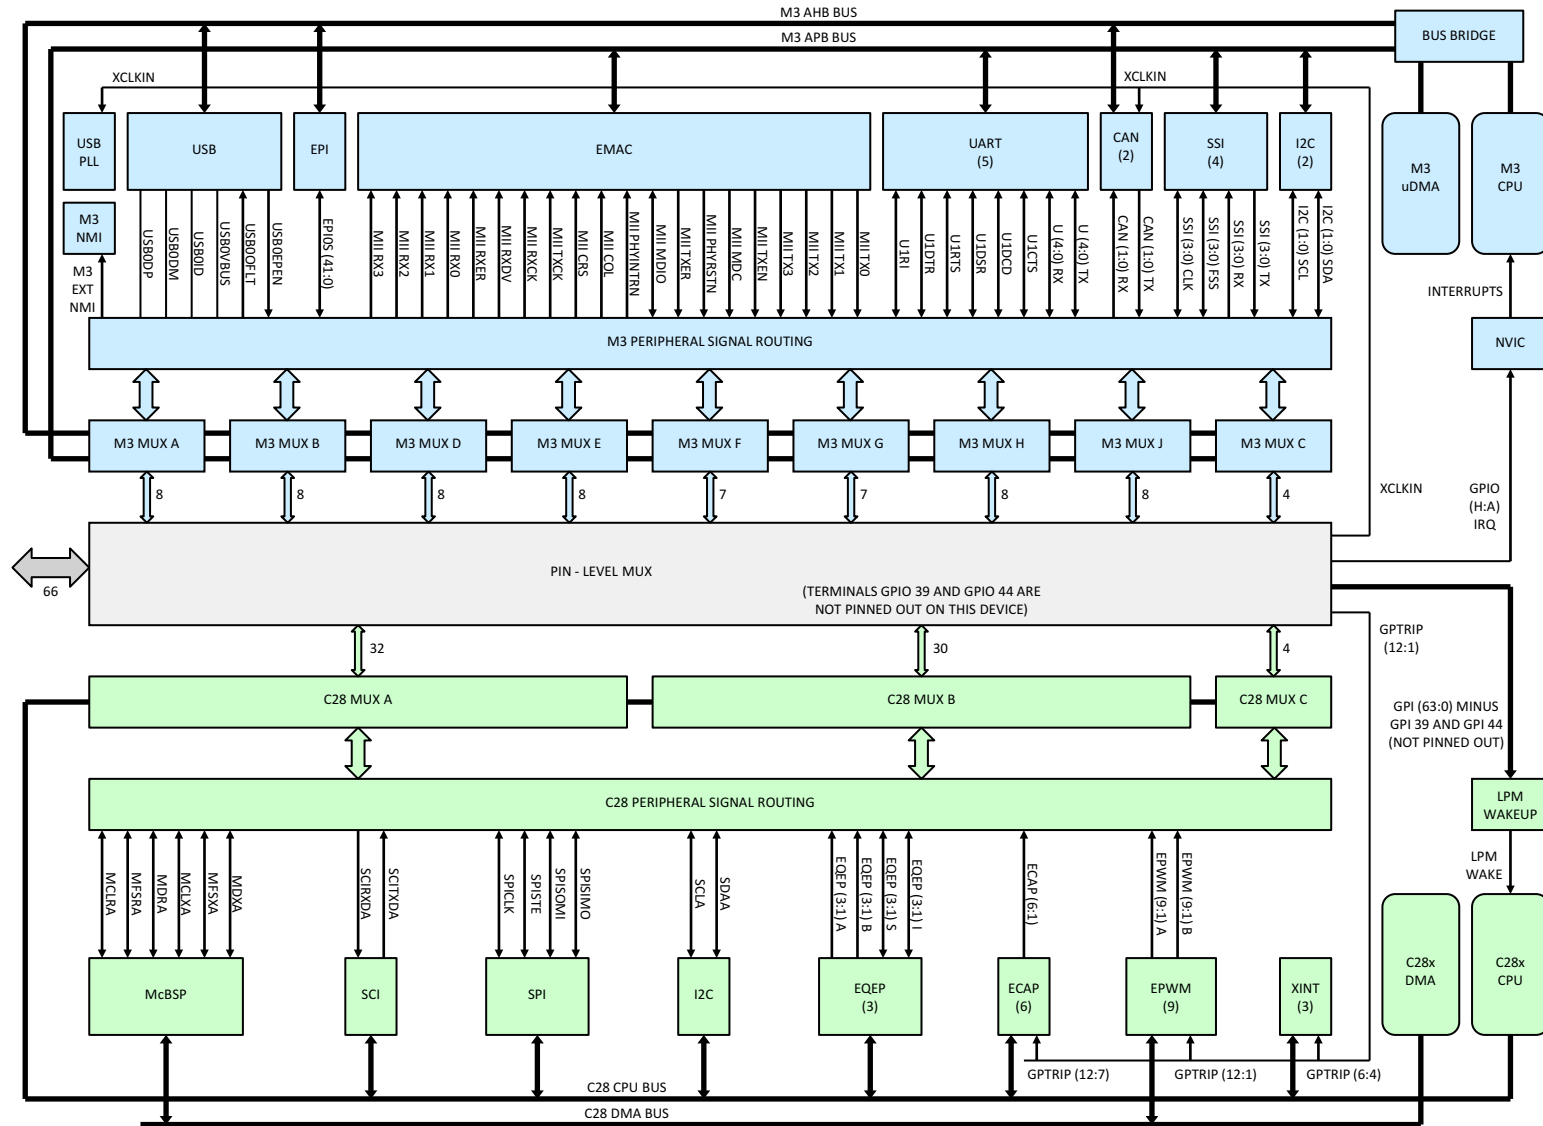
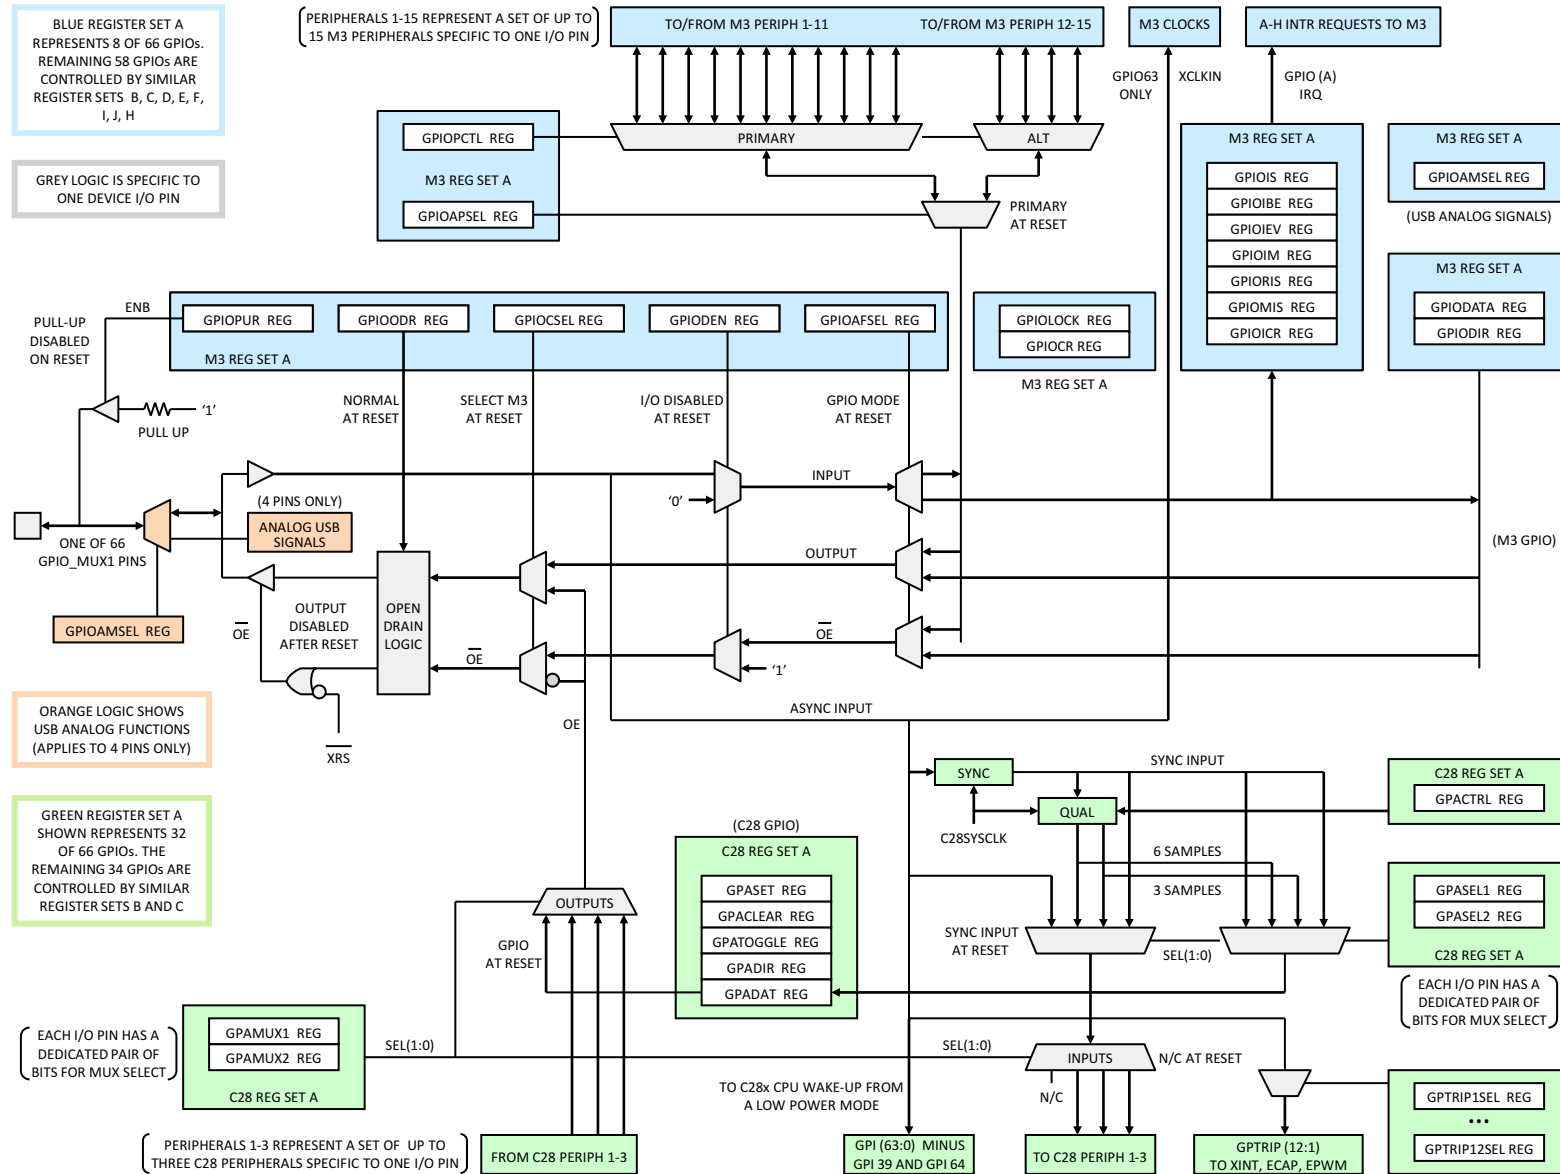

Figure 2-14. GPIO\_MUX1 Block
Figure 2-15. GPIO\_MUX1 Pin Mapping Through Register Set A
Figure 2-14 shows the internal structure of GPIO\_MUX1. The blue blocks represent the Master Subsystem side of GPIO\_MUX1, and the green blocks are the Control Subsystem side. The grey block in the center, Pin-Level Mux, is where the GPIO\_MUX1 pins are individually assigned between the two subsystems, based on how the configuration registers are programmed in the blue and green blocks (see Figure 2-15 for the configuration registers).
Pin-Level Mux assigns Master Subsystem peripheral signals, Control Subsystem peripheral signals, or GPIOs to the 66 GPIO\_MUX1 pins. In addition to connecting peripheral I/Os of the two subsystems to pins, the Pin-Level Mux also provides other signals to the subsystems: XCLKIN and GPIO[A:J] IRQ signals to the Master Subsystem, plus GPTRIP[12:1] and GPI[63:0] signals to the Control Subsystem. XCLKIN carries a clock from an external pin to USB PLL and CAN modules. The nine GPIO[A:J] IRQ signals are interrupt requests from selected external pins to the NVIC interrupt controller. The 12 GPTRIP[12:1] signals carry trip events from selected external pins to C28x control peripherals—ePWM, eCAP, and eQEP. Sixty-four GPI signals go to the C28x LPM GPIO Select block where one of them can be selected to wake up the C28x CPU from Low-Power Mode. Sixty-six (66) GPI signals go to the C28x QUAL block where they can be configured with a qualification sampling period (see Figure 2-15).
The configuration registers for the muxing of Master Subsystem peripherals are organized in nine sets (A–J), with each set being responsible for eight pins. These nine sets of registers are programmable by the Cortex™-M3 CPU via the AHB bus or the APB bus. The configuration register for the muxing of Control Subsystem peripherals are organized in three sets (A–C), with each set being responsible for up to 32 pins. These registers are programmable by the C28x CPU via the C28x CPU bus. Figure 2-15 shows set A of the Master Subsystem GPIO configuration registers, set A of the Control Subsystem registers, and the muxing logic for one GPIO pin as driven by these registers.